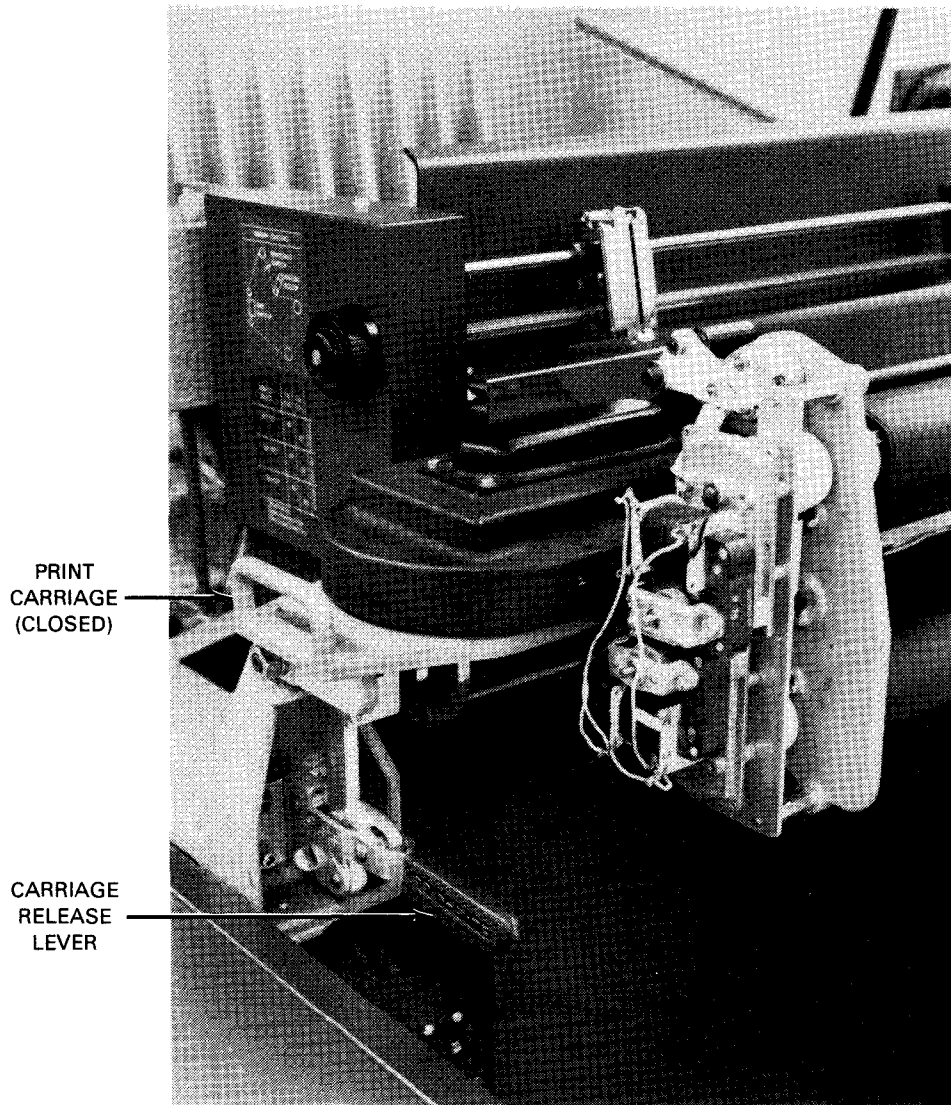

Figure 5-97. Carriage Release Lever in Lock Position
2. Press down the carriage release lever (Figure 5-97) to release the print carriage and fully swing open the carriage.